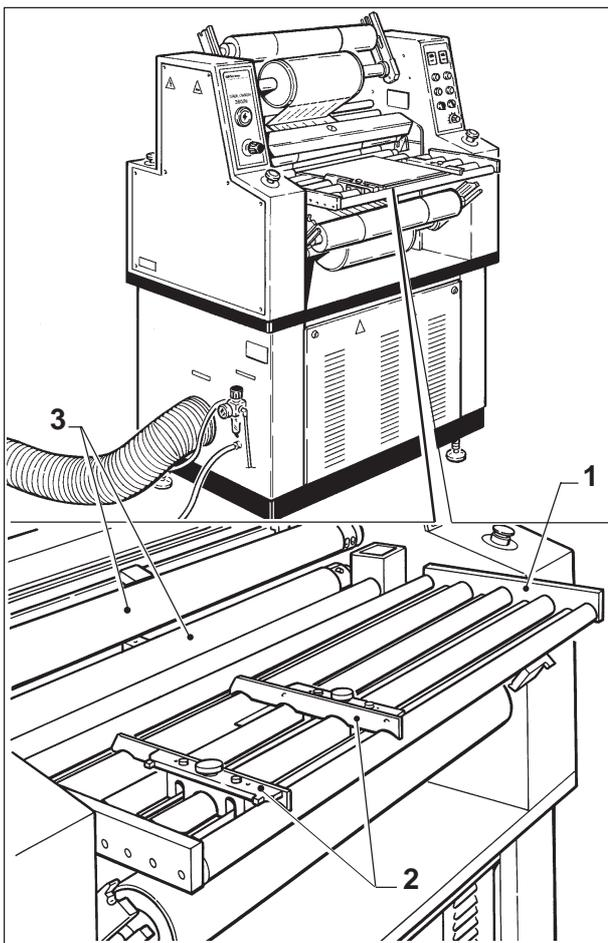

Fig. 8 - STARTING UP OF THE MACHINE
3.1 - STARTING UP OF THE MACHINE (Fig. 8)
- place the input roller (1) in a horizontal position;
- adjust the two centering guides (2) of the input panels your own according to their dimensions.
- according to own process requirements, set up the correct temperature of the lamination rolls (3), the pressure and the conveyor speed, by operating on their controls (see section 2).
- Wait for the lamination rolls temperature (3) to settle to the pre-arranged set point value.